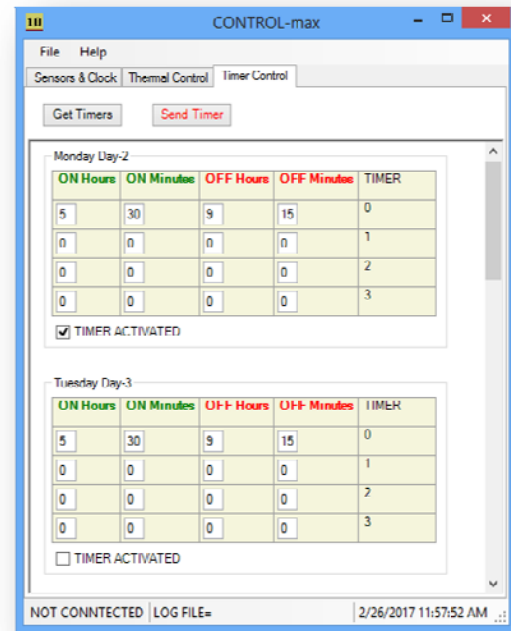

Figure 3
- 4 timers for every day of the week. Monday through Sunday. Independently program active timers. [Fig 3]